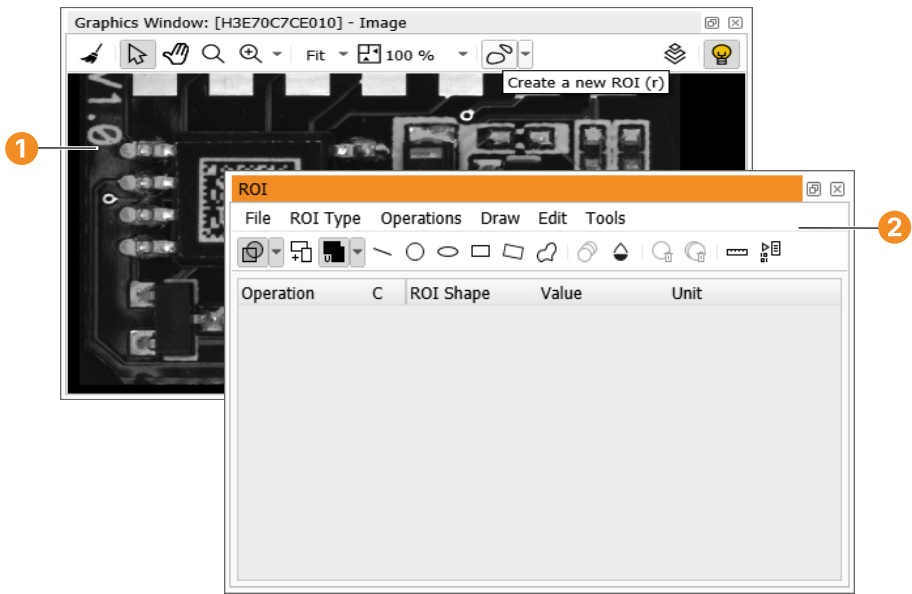

Figure 6.74: Base image for the creation of an ROI.
As an introductory example, the image shown in figure 6.74 ❶ shall be used as the base image for a completeness check application. To determine the location and the alignment of the chip in subsequent images, parts of its imprint will be used as a landmark. Therefore, an ROI has to be created. It would be cumbersome to generate an ROI based on written-down pixel coordinates. Instead, it is much easier to draw a figure right into the image and let HDevelop generate the corresponding instructions.
This will open the dialog shown in figure 6.74 ❷ which will act as a tool box for your new figure.